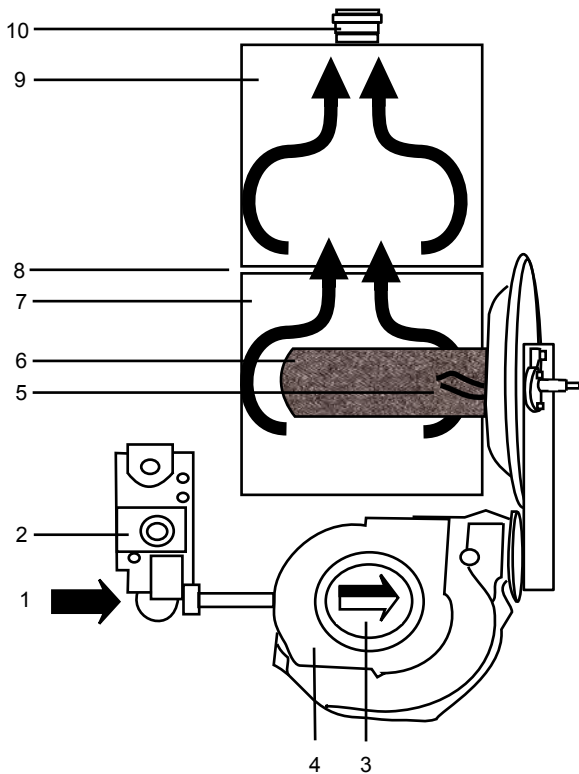

Fig 1 Diagram of operating principles
The CG is a wall-mounted condensing boiler with stainless steel counter flow twin heat exchangers (the CG 60 has a single heat exchanger), pre-mix gas burner and integral combustion air fan (refer Figs 1 and 2). When operating in condensing mode with a flow of 50°C and a return of 30°C, it will give efficiencies of up to 110.6% (ncv). Gas is supplied through a zero governor valve (2). The air intake fan (4) and venturi (3) accurately control the volumes of gas and air and mix them prior to ignition. A small flame is held on the entire surface of the burner combustion head (6). This ensures that there is optimum combustion at any point in the modulation range of the boiler.
#### Key to Figs 1 & 2